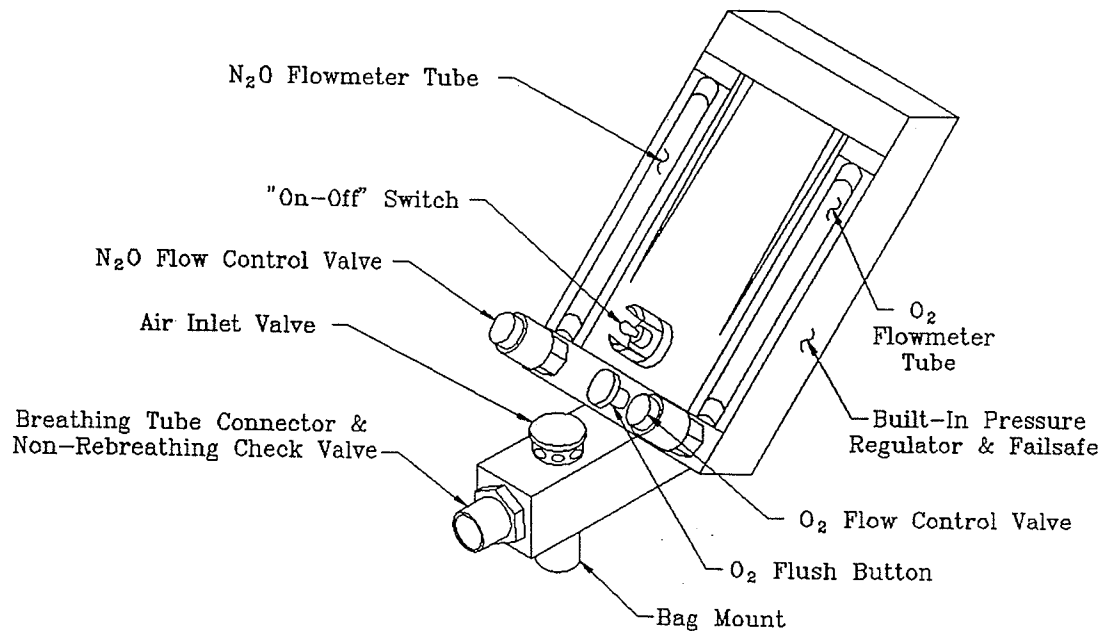

Figure 30
- A) Position the on - off switch in the off position. See figure 30.
- B) Rotate both nitrous oxide and oxygen flow control valves fully clockwise until they stop. See figure 30.
The failure of any one of the following tests will require the analgesia unit to be returned for service. These tests must be conducted periodically to insure that your analgesia unit is performing optimally (see fig 30).
A) The Controls and Indicators (Refer to figure 30)